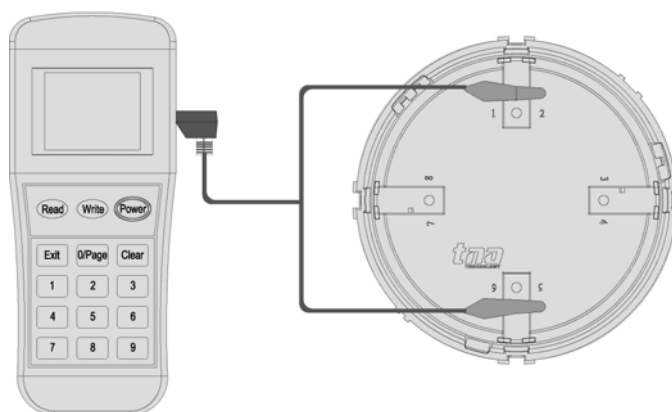

Figure 4
1. Connect the programming cable to Z1 and Z2 terminals (Figure 4). Press **"Power"** to switch on the unit.